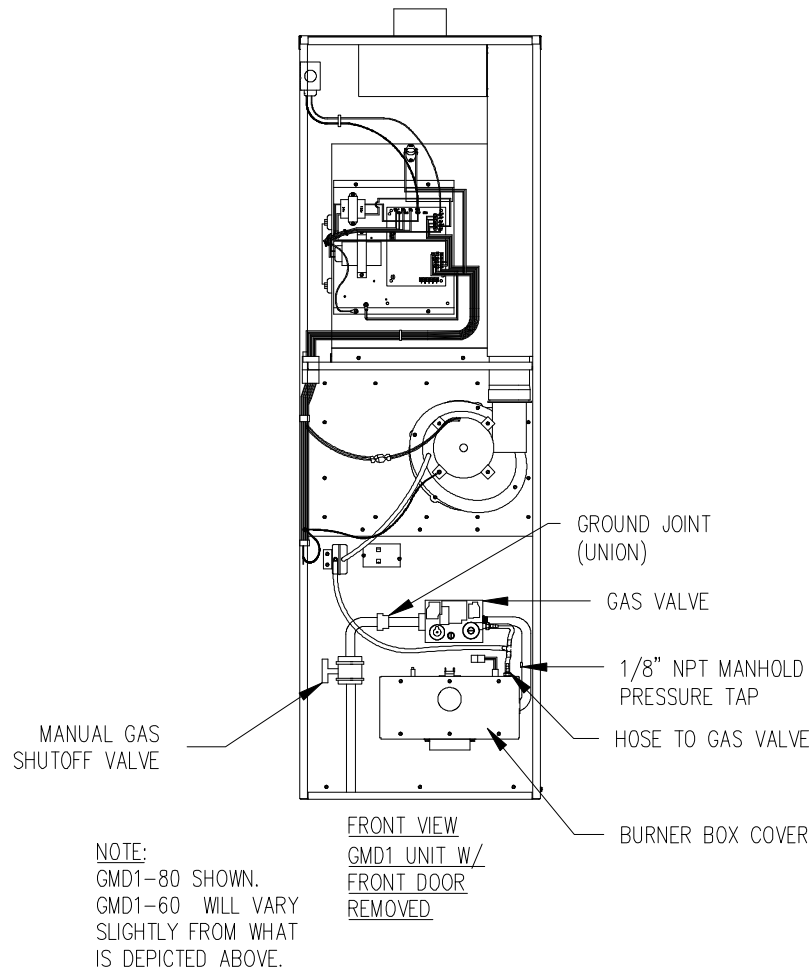

Figure 1.
3. Remove the burner box cover by removing the outer row of screws holding the cover (See figure 1).